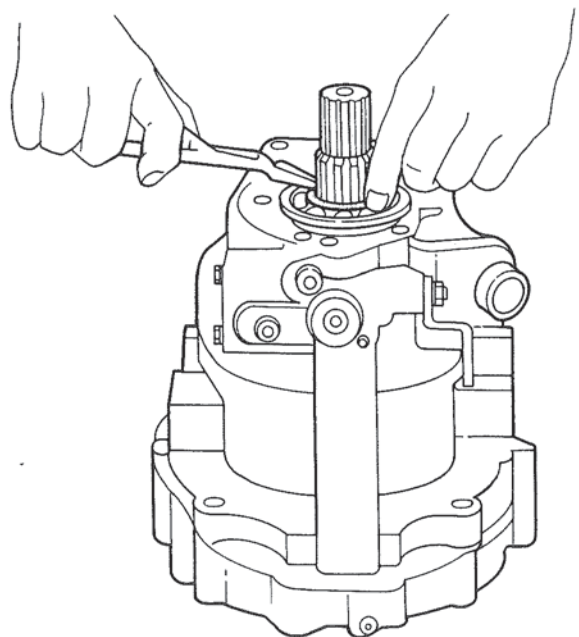

Figure 7. Removing Snap Ring.
7. Remove the snap ring and sun gear. Figures 7 and 8.